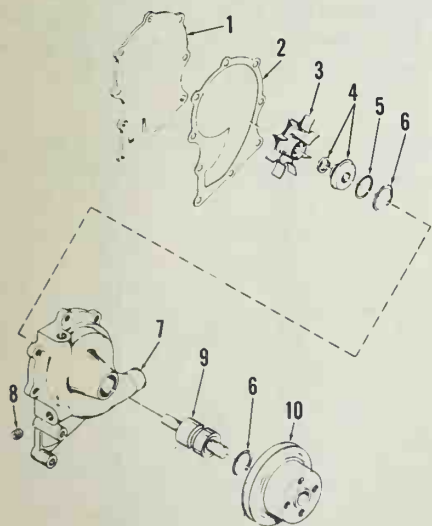

Fig. C1-3—Exploded view of water pump.
Refer to Fig. C1-3 and disassemble pump as follows: Pull pulley (10) off shaft then remove cover (1). Pull impeller (3) off shaft and remove seal assembly (4). Detach snap rings (6). Drive or press shaft (9) out of housing